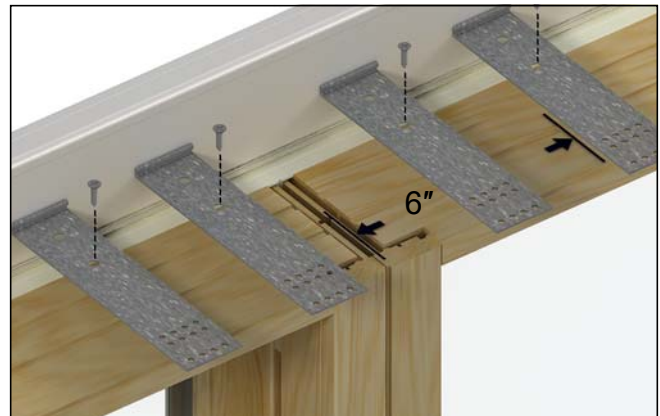

Figure 11
NOTE: All mulled units require fastening with two screws or structural brackets on each side of the mull joint, no more than 6" (152) from mull joint. Additional structural brackets should be placed at the corners to level unit. See figure 11.